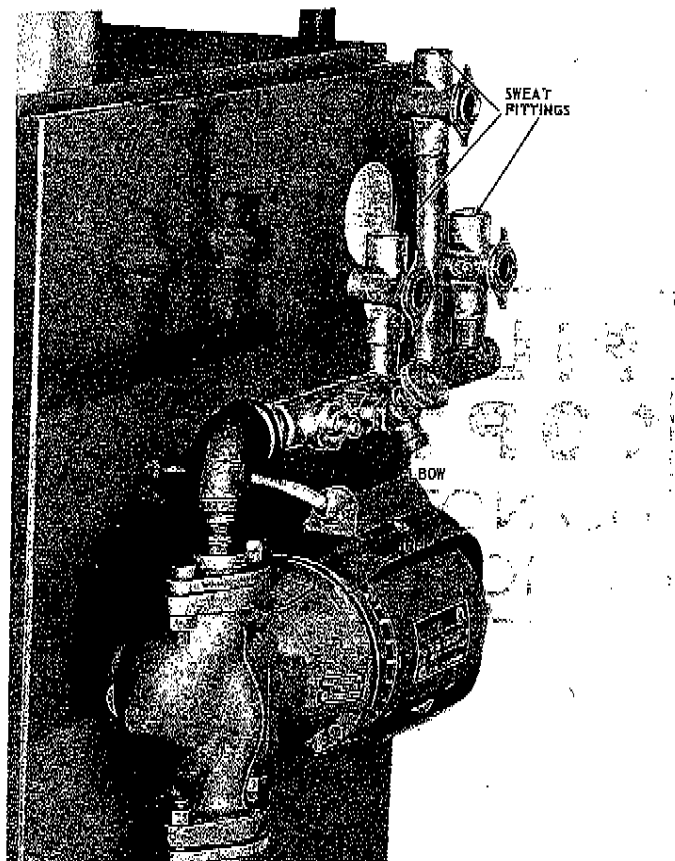

Figure 2 – Installing Manifold
2. Connect the zone valve manifold to the 1 inch elbow, see Figure 2.